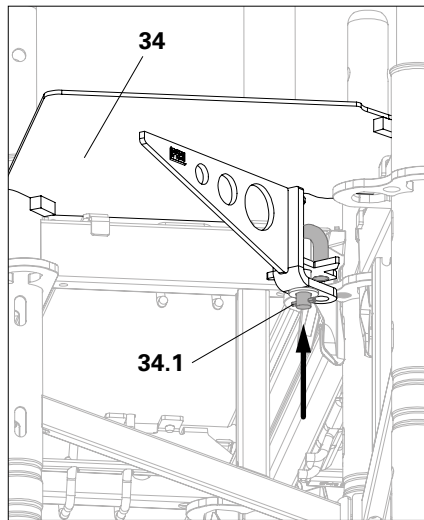

Fig. D1.18
Fit an Inside Corner Plate EDP (**34**) for the remaining internal corner (Fig. D1.18 + D1.18a)
- The inside corner with internal console brackets is now installed. (Fig. D1.18 + D1.18a)